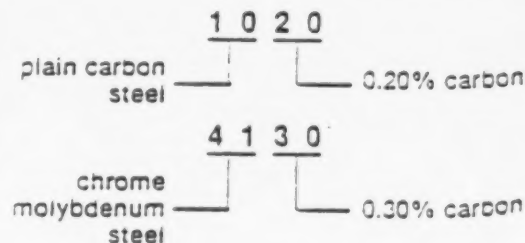

Fig. 130-1. SAE and AISI code numbers.
Two examples of the SAE/AISI numbering system are explained in Fig. 130-1. The series designations and the types of steel which they designate are summarized in Table 130-1.
6. Look at Figure 130-1. In the code number 1020, what do the third and fourth digits tell you? _____